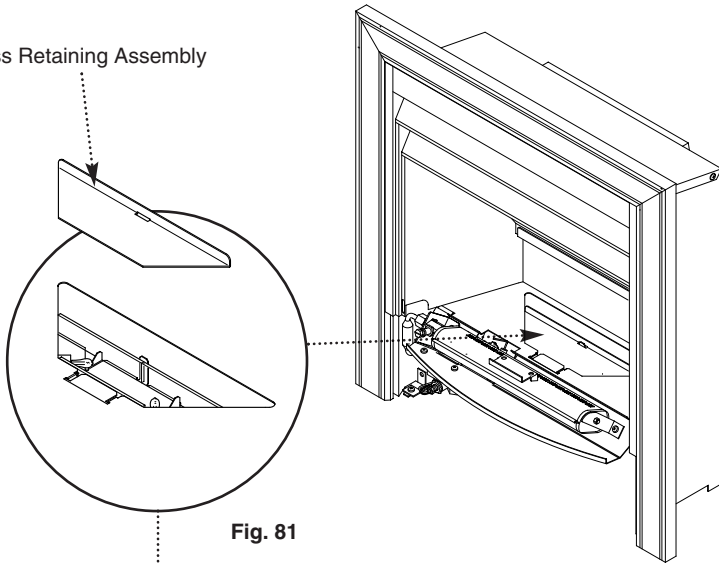

Fig. 81
2. Lift out the glass retaining assembly (Fig. 81).